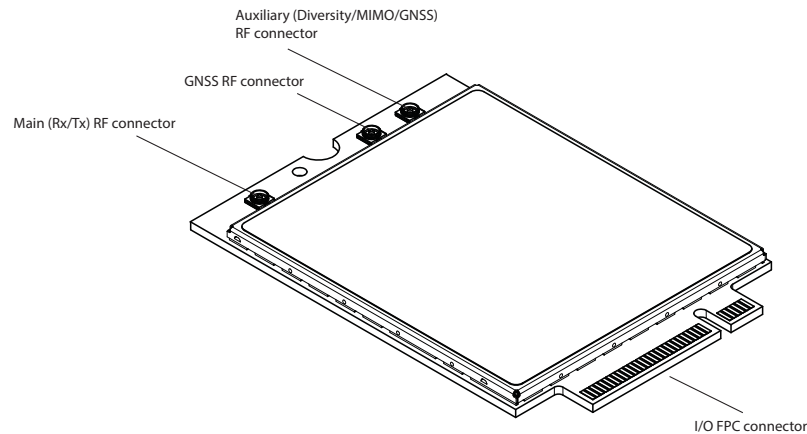

Figure 4-1: Module Connectors
- Connect to system ground using the mounting hole shown in Figure 4-1 on page 37.